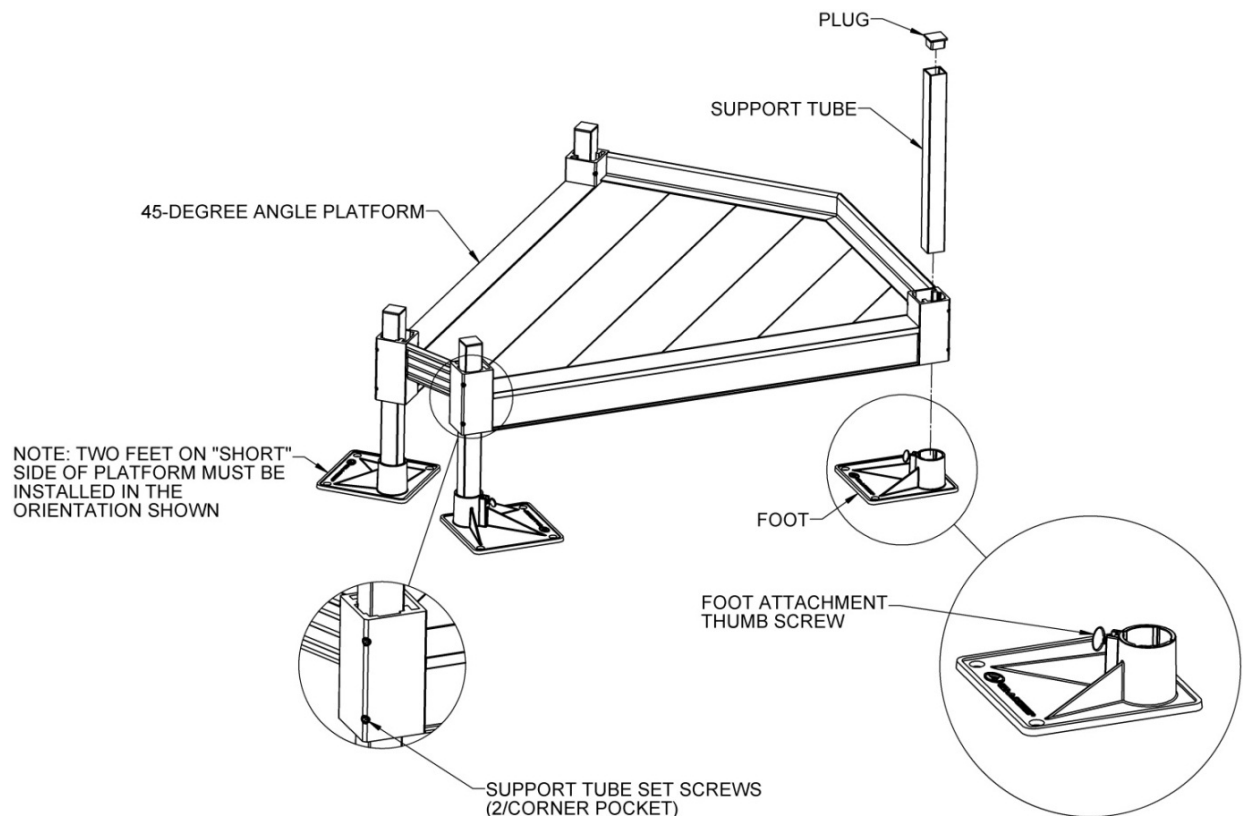

FIG. 1
- 1.2. Stand platform on its side and insert support tubes into each of the four corner pockets. Adjust the support tubes to the approximate height needed and tighten one of the set screws in each of the four corner pockets with a 3/16" Allen wrench, just enough to hold the support tube in place. **NOTE:** do not over tighten. The second set screw will be tightened after final height adjustments are complete (FIG. 1).
- 1.4. Position platform, then lift each corner of the platform and install a base foot on each support tube (oriented so that the foot extends under the platform, except as noted in FIG. 1). Make sure the feet are fully engaged on the tubes and tighten the thumb screw on each foot securely. **NOTE:** If installing on soft soil it may be necessary to set the base foot on a concrete pad.